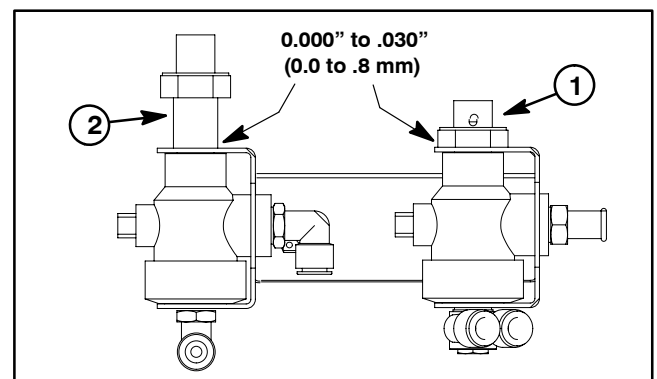

Figure 28
A. Tighten recirculation port (item 24) so that clearance between port neck and top of bracket is from 0.000" (flush) to .030" (.0 to .8 mm) (Fig. 28).
B. Tighten outlet port (item 7) so that clearance between bottom of hex and top of bracket is from 0.000" (flush) to .030" (.0 to .8 mm) (Fig. 28).